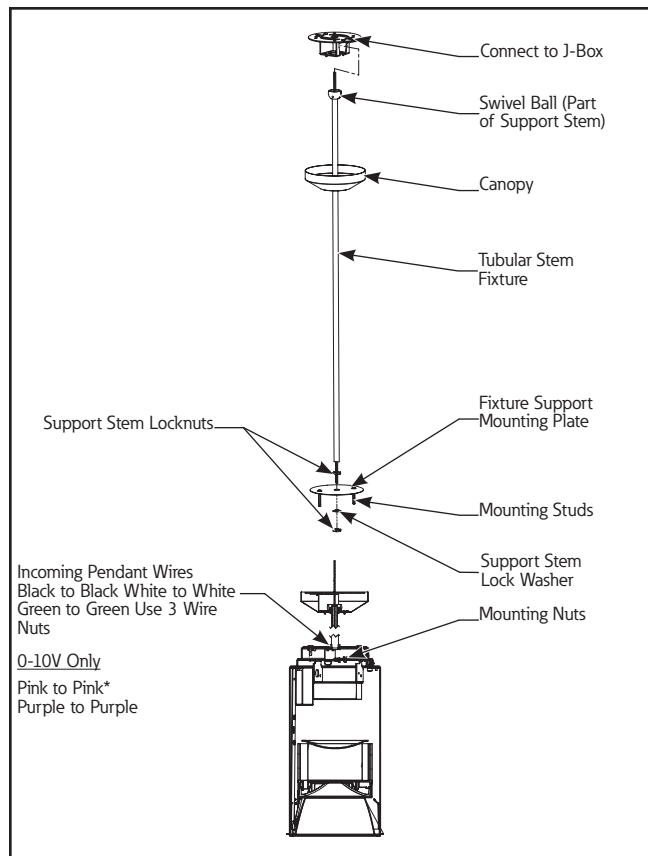

Figure 1.
1. Mount swivel support to ears on flush mounted junction box. (Figure 1.)
2. Place canopy on stem. (Figure 1.)
5. Mount fixture support mounting plate to cylinder mounting bracket using the two mounting studs and nuts. (Figure 1.)
8. Insert swivel ball end of stem and fixture assembly into swivel support and splice wires to power supply leads (Figure 1.). (See main instruction sheet)
9. Slide canopy over swivel support and secure by twisting to engage ears on swivel support. (Figure 1.)
10. Install modules and trim per instructions provided with the housing. (Figure 1.)